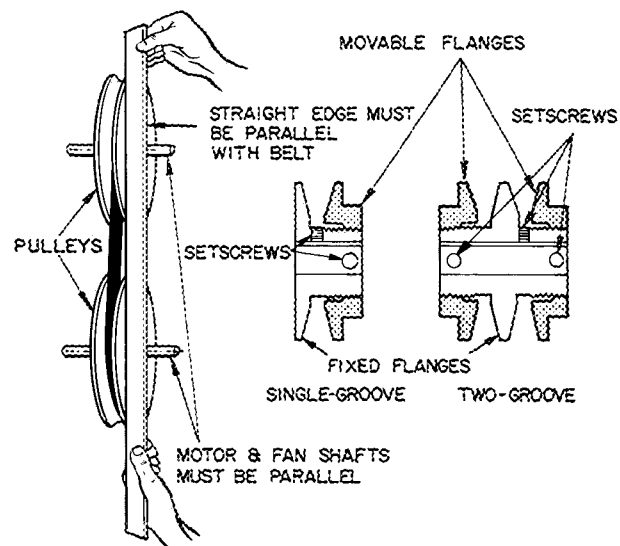

Fig. 10 – Indoor Air Fan Pulley Alignment and Adjustment
4. Loosen movable pulley flange setscrew (see Fig. 10).
To align fan and motor pulleys, loosen fan pulley setscrews and slide fan pulley along fan shaft. Make angular alignment by loosening motor from mounting plate (see Fig. 10).